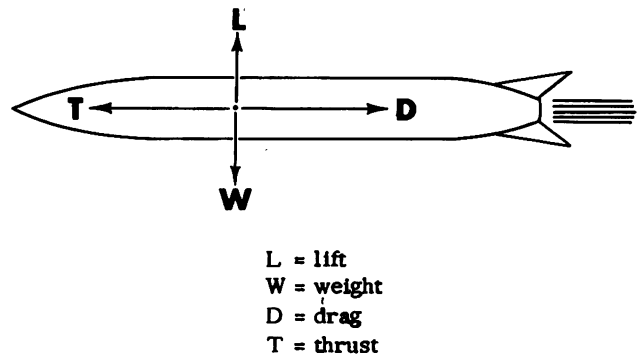

Figure 1B.—Force vectors on a missile in flight.
36. If the missile shown in figure 1B is moving at a constant velocity and at a constant altitude, what must be the relationships between the force vectors?
37. What happens to the motion of the missile shown in figure 1B if D is less than T and W is less than L ?
38. If the missile in figure 1B is accelerated at a rate of 160 feet per second per second because T is much greater than D , it undergoes an acceleration of